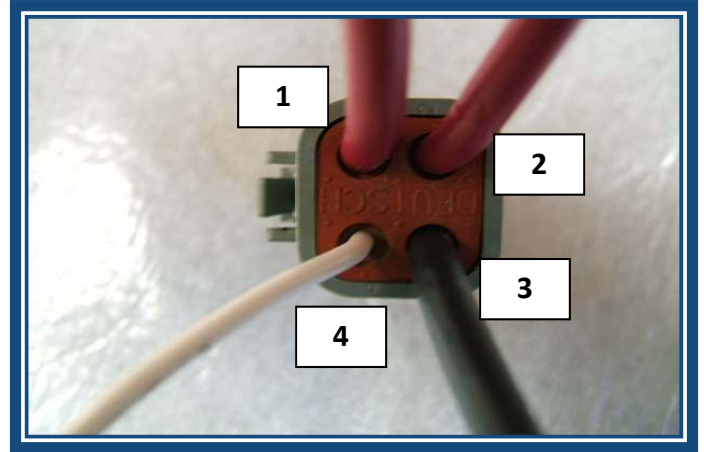

Figure 7
**Step 7:** Verify that the wires are inserted into the connector correctly, in the correct position, and locked into place. (See Figure 7)